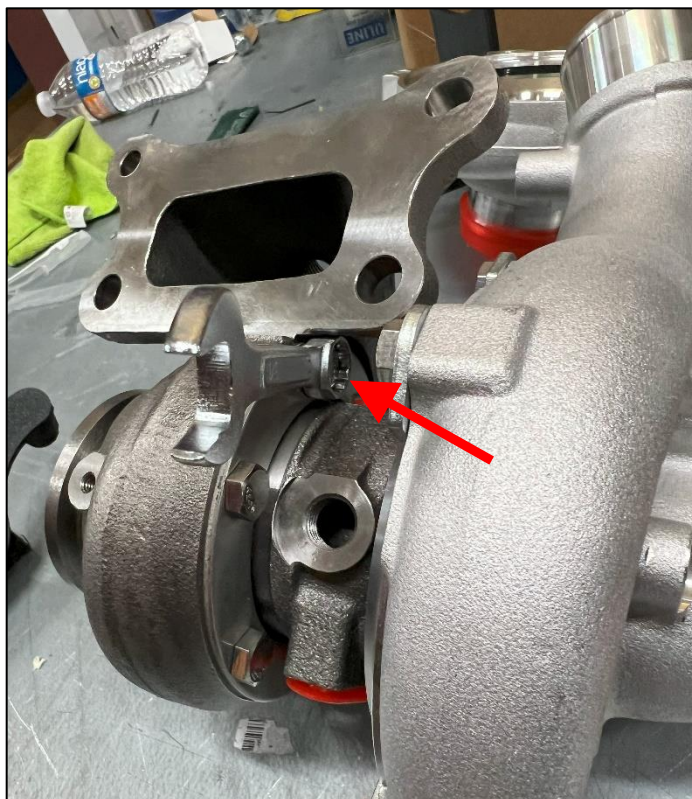

Figure 4
5. If you notice a considerable gap or that the “nub” doesn’t sit flush in the Coolant Feed Port with the (2) two holes lined up on the Exhaust Inlet Flange, you need to slightly clock the Turbine Housing. To do so, loosen all the bolts securing the Turbine Housing to the CHRA. The most difficult bolt to access is the one just under the exhaust inlet flange and can be loosened with a closed end wrench as shown below. *Figure 4.*